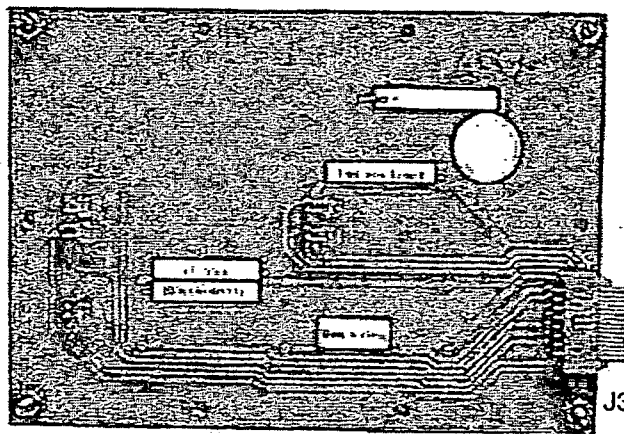

Figure 2. Series 300 ATS operator Interface board mounted on the enclosure door (back view).
Module Installation – Figures 2 & 3
1. With all power OFF, open the enclosure door. Locate the operator interface (membrane controls) mounted on the inside of the enclosure door. Use a 5/16" nutdriver to remove (counterclockwise) the four hex nuts from the corners of the operator interface. Do not remove the operator interface board (Figures 2 & 3).
3. Connect the new ribbon cable (coming from the Acc. 11BG module upper right side) to the operator interface (J3 lower right side) with the same orientation as the original cable that was moved. See Figures 2 & 4.